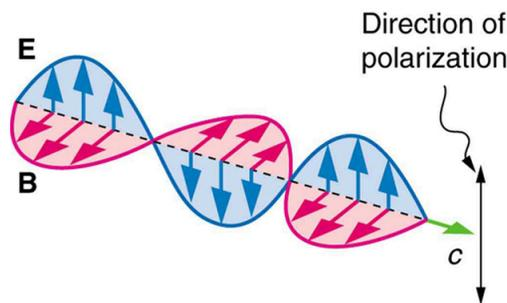

Figure 27.37 An EM wave, such as light, is a transverse wave. The electric and magnetic fields are perpendicular to the direction of propagation.
Light is one type of electromagnetic (EM) wave. As noted earlier, EM waves are *transverse waves* consisting of varying electric and magnetic fields that oscillate perpendicular to the direction of propagation (see Figure 27.37). There are specific directions for the oscillations of the electric and magnetic fields. **Polarization** is the attribute that a wave's oscillations have a definite direction relative to the direction of propagation of the wave. (This is not the same type of polarization as that discussed for the separation of charges.) Waves having such a direction are said to be **polarized**. For an EM wave, we define the **direction of polarization** to be the direction parallel to the electric field. Thus we can think of the electric field arrows as showing the direction of polarization, as in Figure 27.37.